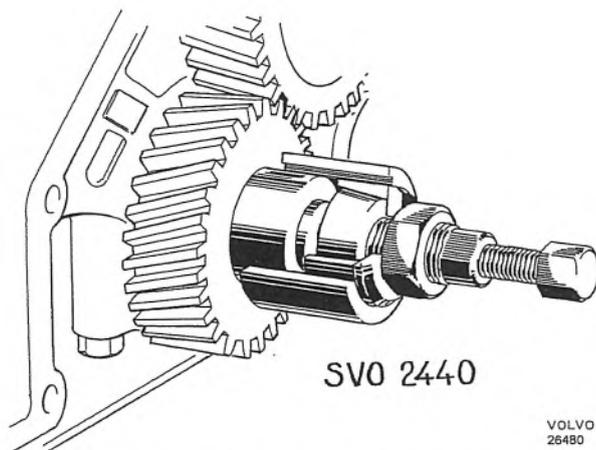

Fig. 2-39. Removing hub on crankshaft
3. Remove the hub from the crankshaft with puller 2440. See Fig. 2-39.